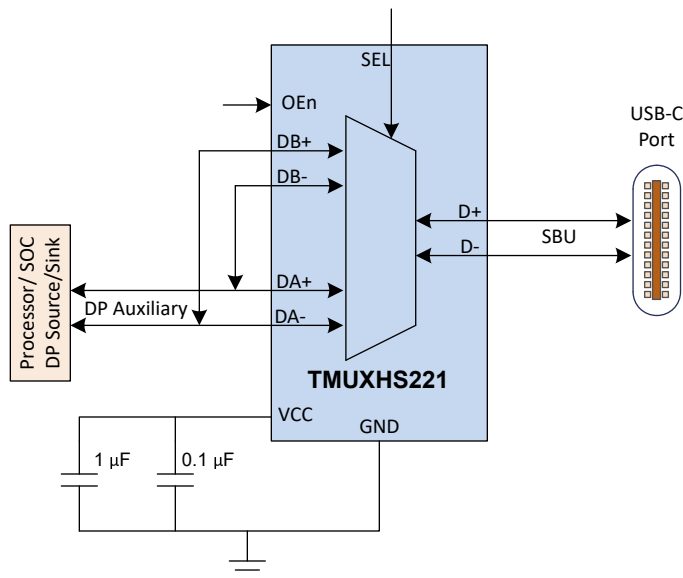

Figure 8-5. USB Type-C SBU Signals Muxing
Figure 8-5 shows an application block diagram that implements SBU cross-muxing in a USB Type-C interface for implementing DisplayPort (DP) Alternate mode using the TMUXHS221. Note that the device has adequate bandwidth to support fast Auxiliary (AUX) signals. It is also capable of handling asymmetric biasing for DP AUX signals.